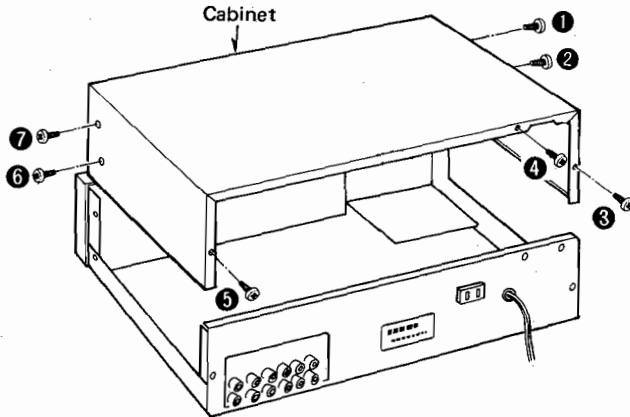

Fig. 1
1. Remove the screws (Fig. 1: ① ~ ⑦) of the cabinet.
1. Remove the cabinet. (See Fig. 1.)